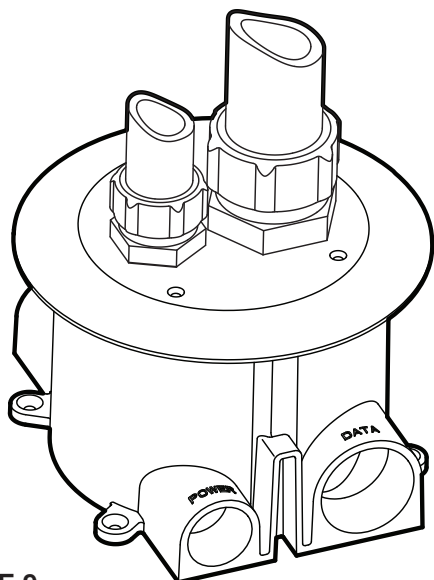
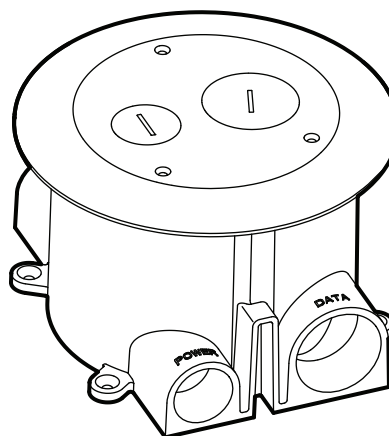

FIGURE 9
FIGURE 10
- 3.4 Attach suitable conduit fittings. All unused ports in cover are to be plugged with plugs furnished with cover. Use thread sealer on all plugs and fittings to block water entry (See Figure 9 and 10).
- 3.5 Figure 9 shows conduit fittings attached to cover. Figure 10 shows plugs installed in cover.